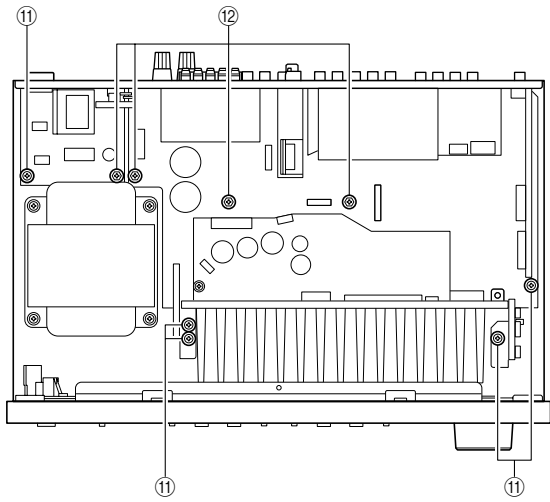

Fig. 4
- c. Remove 5 screws (⑪) and 4 screws (⑫). (Fig. 4)